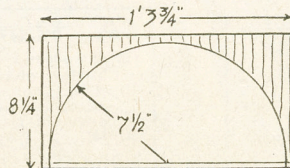

Fig. 2—For a rectangular top
Cut a piece of $\frac{3}{8}$ in. thick board to the size given in Fig. 2. The grain of this should run in the direction shown, so two or more pieces of the board will have to be glued together to make up the width. Run a line along the bottom,
In undertaking small parts, their cleaning is sometimes difficult, and here are two suggestions which may help you out. Both are illustrated at Fig. 2 and almost explain themselves. Instead of using the glasspaper on the work in the ordinary way, reverse the process and rub the work on the glasspaper.
A sheet can be laid flat as (A) Fig. 2, or lightly pinned to the bench with drawing pins, if it is likely to cockle. Then the small piece being cleaned is laid on the glasspaper, and with a circular motion is
At (B) Fig. 2 you have the suggestion for a similar piece of work. This, as you see, is cut from the piece of wood to leave a solid framework, thus for cleaning the little piece of fretted work can be replaced in its original board and thus leave the whole flat surface suitable and simple for cleaning with glasspaper. The board can be pinned to the table for fixing if you wish.